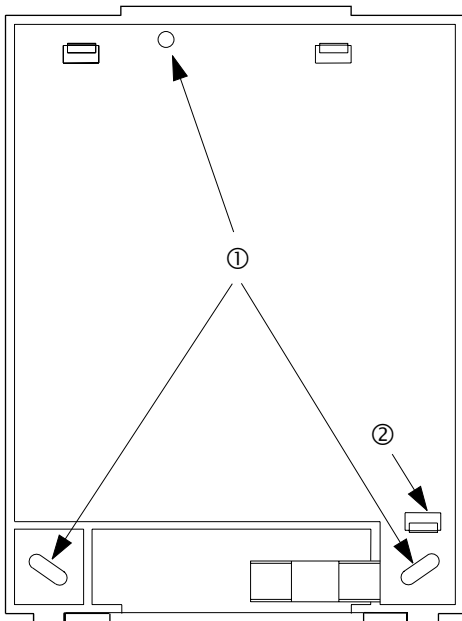

Figure 7. Base mounting hole locations
- ① Press down here and pull away from base
2. Press down on the lower right corner of the base until the lower right latch releases the circuit board (see Figure 7).
4. Hold the base against the mounting surface and mark the three mounting holes (see Figure 7). Leave at least 25 cm above the base for the antenna.